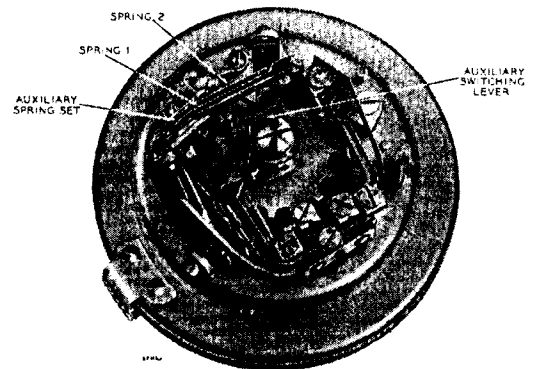

FIG. 30.—REAR VIEW OF DIAL FOR USE WITH TESTERS
23. A rear view of a Dial, Automatic, No. 16, showing the names of the auxiliary parts, is given in Fig. 30.